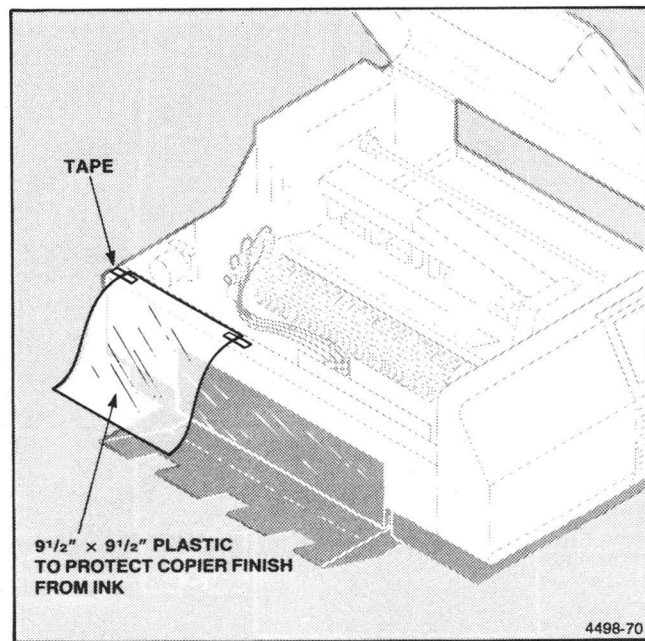

Figure 8-4. Plastic Protective Apron.
1. Tape a piece of plastic approximately 9.5 X9.5 inches (241 X 241 mm) to the front of the copier. This piece of plastic will act as an apron to protect the outside finish of the copier (see Figure 8-4).